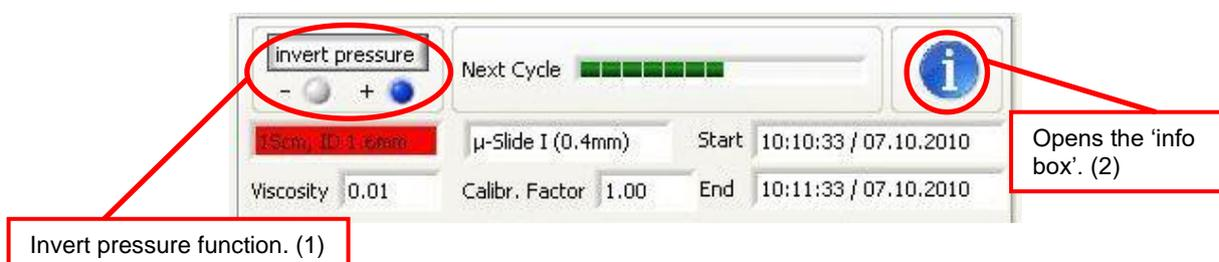

Figure 25: Overview and Information
- When you press the 'Save' button, after Steps 1-4, the new cycle list will be transferred to the main PumpControl menu. You can view the cycle list in the Cycle Overview table (see Figure 23) or by selecting the information box, as shown in section 4.2 (control 2 in Figure 25).
At the bottom of the 'Automatic Control' panel, in **Fehler! Verweisquelle konnte nicht gefunden werden.**, you'll find the overview and information sections like indicated in Figure 25.
In the middle of Figure 25, you'll find the horizontal progress bar, indicating the start of the next cycle. On the lower right-hand side, the experiment start and finishing times are shown. Next to this, the 'Fluidic Unit Setup' is displayed and shows the selected μ -Slide, the Perfusion Set, the viscosity, and the calibration factor.
In this panel, you'll also find two functional buttons: 'invert pressure' and 'information'. With the 'invert pressure' button (control 1 in Figure 25), you can invert the airflow by switching between the positive and negative air pressure. Activating the 'information' button (control 2 in Figure 25), allows you to reach an overview table that lists the cycles you've created. In that menu, the active cycle is highlighted. More details can be found in section 4.2.